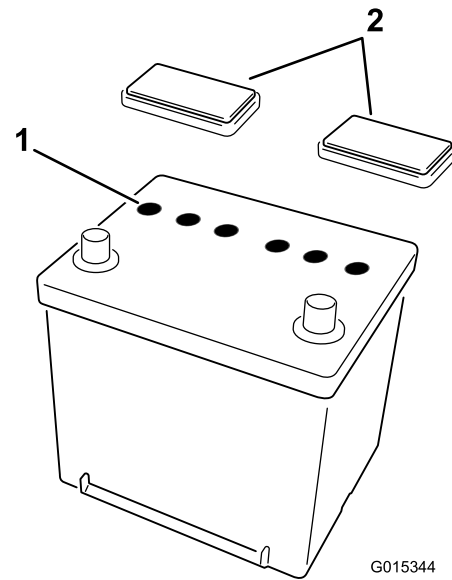

Figure 1
2. Remove the vent caps from the battery (Figure 1). Carefully fill each cell with electrolyte until the plates are covered with about 1/4 inch (6 mm) of fluid.
3. Allow approximately 20 to 30 minutes for the electrolyte to soak into the plates. Refill as necessary to bring the electrolyte to within about 1/4 inch (6 mm) of the bottom of the fill well (Figure 1).